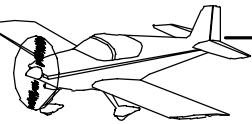

**FIGURE 4: DRILLING NUTPLATE HOLES**
**Step 5:** Match-Drill the nutplate rivet holes into the F-1011E Rudder Cable Angle as shown in Figure 4. The nutplates can be temporarily held in place with AN3 bolts while the holes are drilled. Match-Drill one rivet hole and cleco it before drilling the second. This will prevent the nutplate from rotating before the second hole is match-drilled.